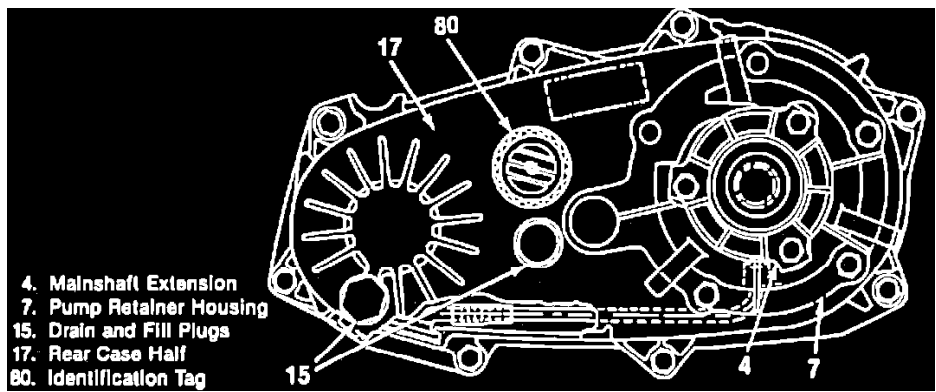

Fig. 17 Rear Case Half. New Process Models 231, 233 & 241 Transfer Cases
1. Remove front output yoke (Models 231 and 233) or flange (Model 241) nut, washer, rubber sealing washer from front output shaft. **Refer to Figs. 17 through 24 during disassembly of transfer case.**